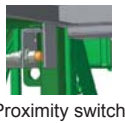

Fig. 8.18
- 6- Connect the proximity switch to the control panel using the PRX3 connection port on the multiport connection device (fig. 8.18).